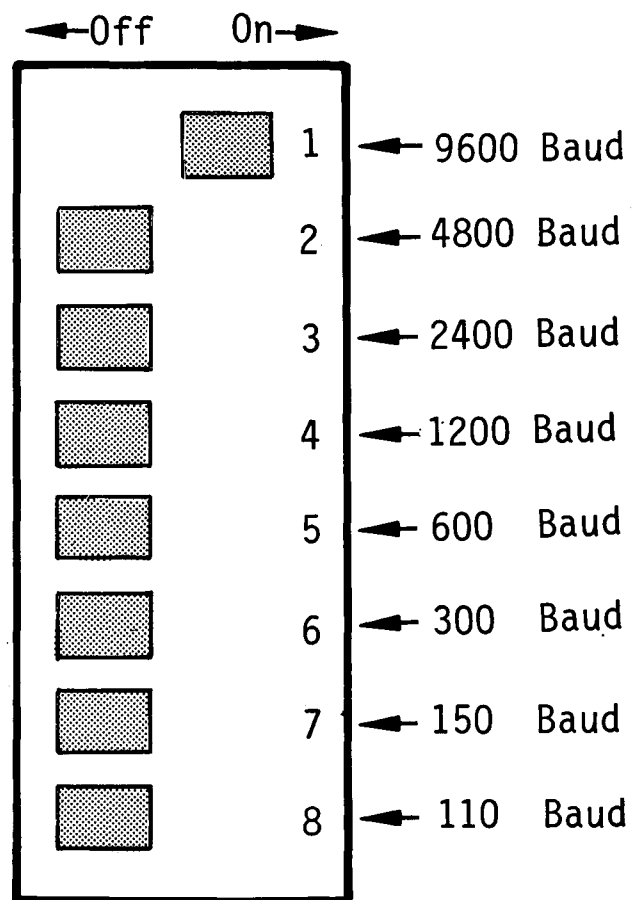

Figure 2-6. Baud Rate Switch Settings
- Verify that the Processor Accessory PCB (see Figure 2-5) switch SW1 (VDT port baud rate) is set to the 9600 baud position (see Figure 2-6).
- Verify that the Processor Accessory PCB SW2 is set to the correct baud rate for the device assigned (2400 for Serial Printer, 9600 for VDT) (see Figure 2-6).
Systems containing multiple VDTs and Serial Printers require a 4- or 8-Way Controller PCB (see Figure 2-5). Set the baud rate switch for each channel to equal the corresponding VDT or Serial Printer's specified baud rate. Switch settings are shown in Figure 2-6.